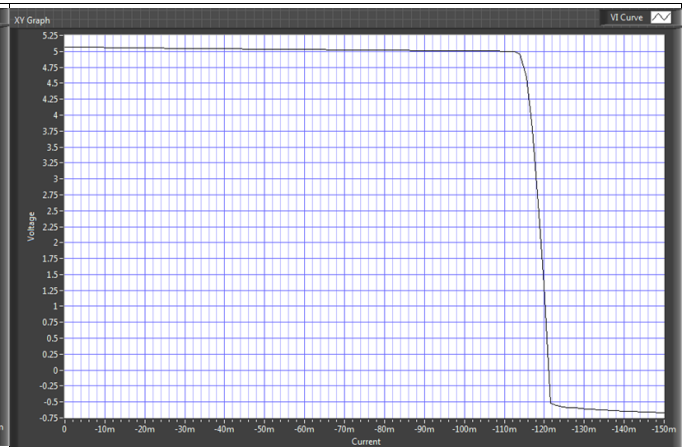

**Figure 1. SPI Timing Requirements**
(1) SMODE = Low
(2) These numbers refer to the corresponding number in Figure 1